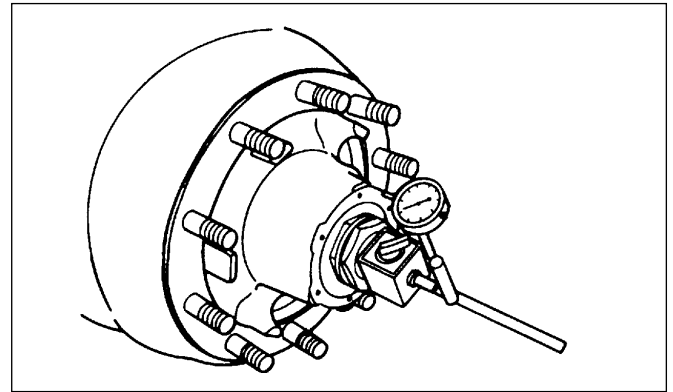

Figure 22. Attach dial to spindle head
- a. Attach the magnetic base of the dial indicator to the spindle end. The stem of the dial indicator must touch the gasket surface of the hub (Figure 22).